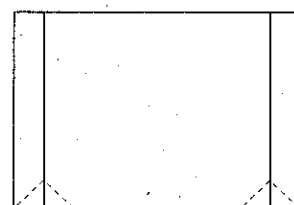

Fig. 6
- Adjust the LOWER CORNER CORRECTION to obtain condition as in (fig. 6).